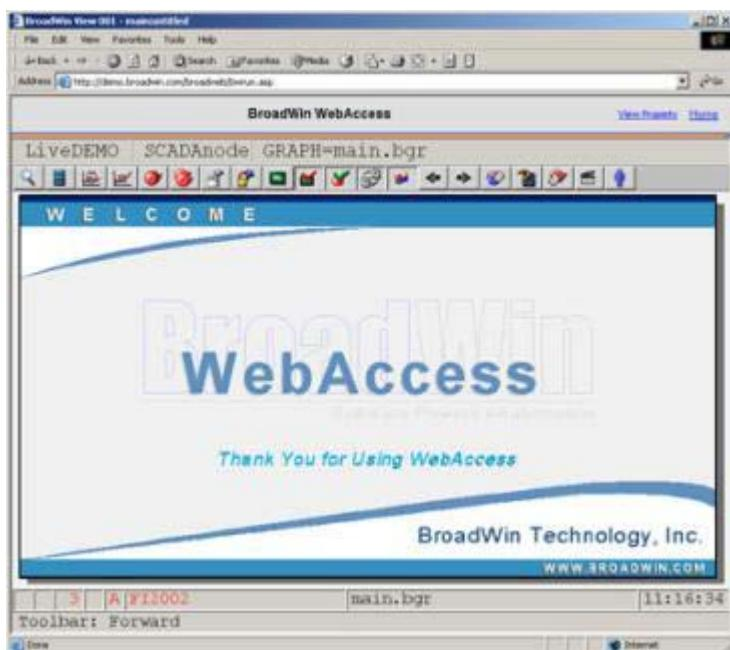

Figure 1.22 - default Main graphic display
6. The MAIN graphic display for your system appears. The default MAIN graphic supplied with WebAccess is shown below (Figure 1.22). Yours will probably look different